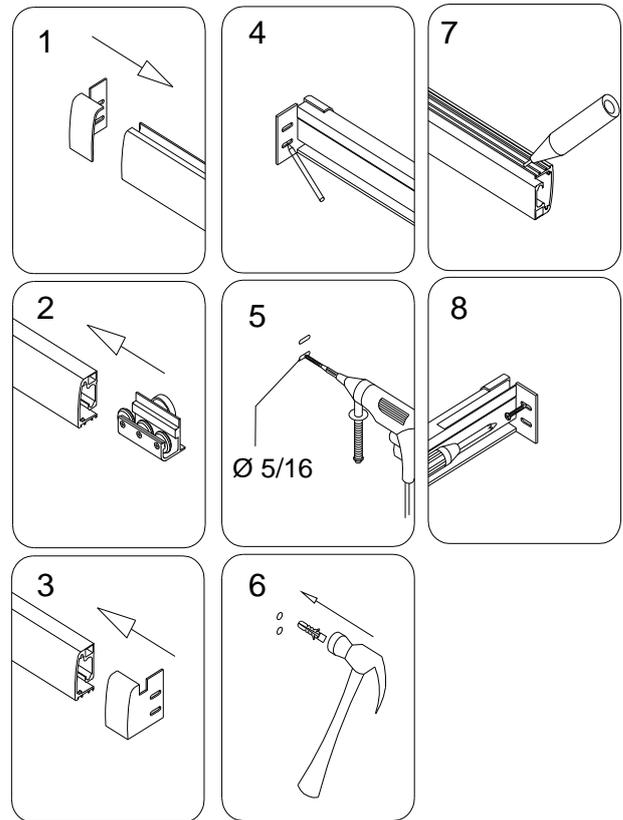

Fig. 3
3. Fasten the **Guide rail connector (11)** to one of the sides of the **Guide rail (05)**. Slide in two **Roller assemblies (13)** from the other end of the **guide rail**. Fasten another **Guide rail connector (11)** to the other side of the **Guide rail**. Place the **Guide rail** in the designated position on the base or the threshold and mark the holes through the predrilled holes on the flange of the **Guide rail connector**. Drill the holes using $\text{Ø}5/16''$ drill bit and insert the **Wall anchor (08)**. Apply a layer of caulk or silicone to the bottom side of the guide rail. Place the **Guide rail** back on the base or the threshold and secure it with the **Round head screw ST4.2×35 (10)**. See Fig. 3 for details.